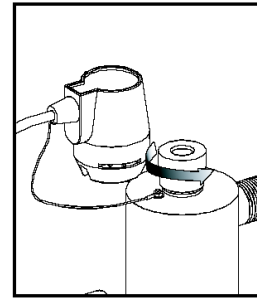
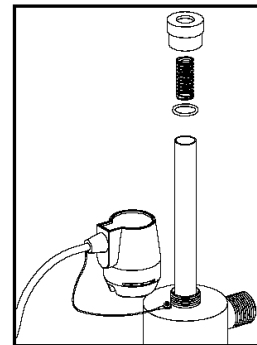

FIGURE 3A
FIGURE 3B
- After the UV lamp has been removed (Step 2), remove the aluminum retaining nut by turning counter clockwise (Figure 3a). Place a small pail under the reactor chamber to catch any water that may leak from the system. Grasp the quartz sleeve and fully remove from the reactor chamber. As with the lamp, make sure the sleeve is removed from the reactor chamber being careful not to angle the sleeve as it is removed from the reactor (Figure 3b). If the lamp is removed on an angle, pressure will be applied on the sides of the sleeve and against the reactor chamber, causing the sleeve to fracture.